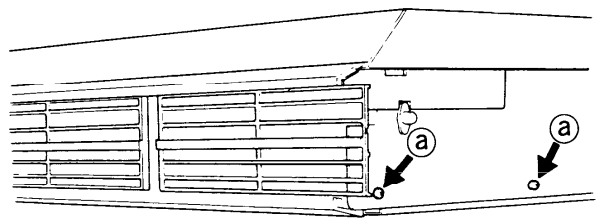

Fig. 7
- (4) Slide the discharge grille at the unit front about 0.38" to the side, remove it, and remove the screw (black color) at the center on the inside.
- (5) Remove the four screws (a) at the lower part on both sides. Fig. 7